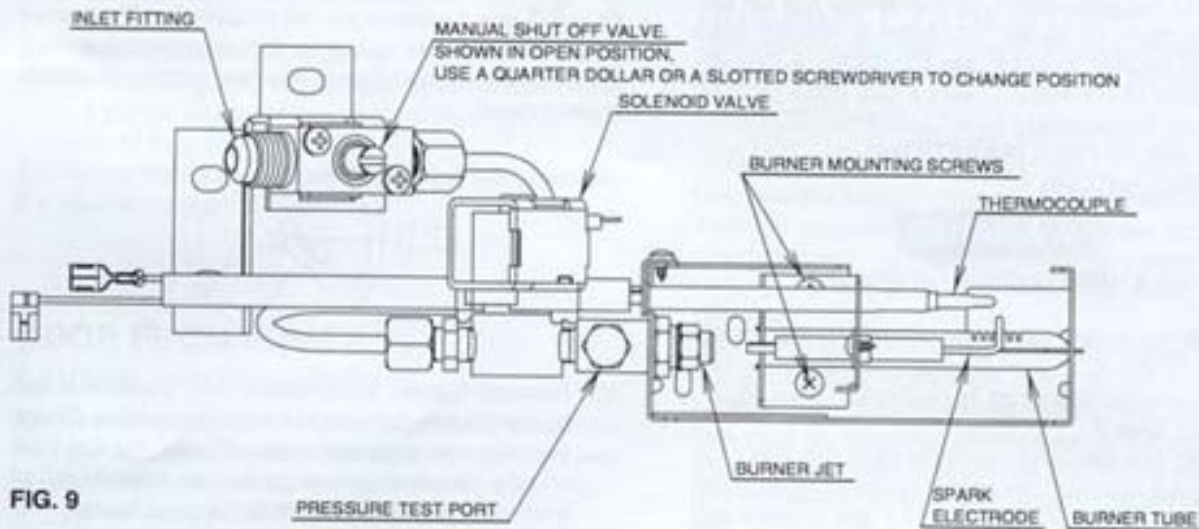

FIG. 9
- D. The LP gas pressure should be checked and the main regulator re-adjusted if pressure is incorrect. The correct operating pressure is 11 inches of water column. The correct place to take the LP gas pressure is at the test port just ahead of the burner jet. (See FIG. 9).
6. Remove the burner mounting screws and remove the burner assembly. (See FIG. 9).
Set main regulator so pressure does not drop below 11 inches water column at pressure test port (see side 11 FIG. 9).